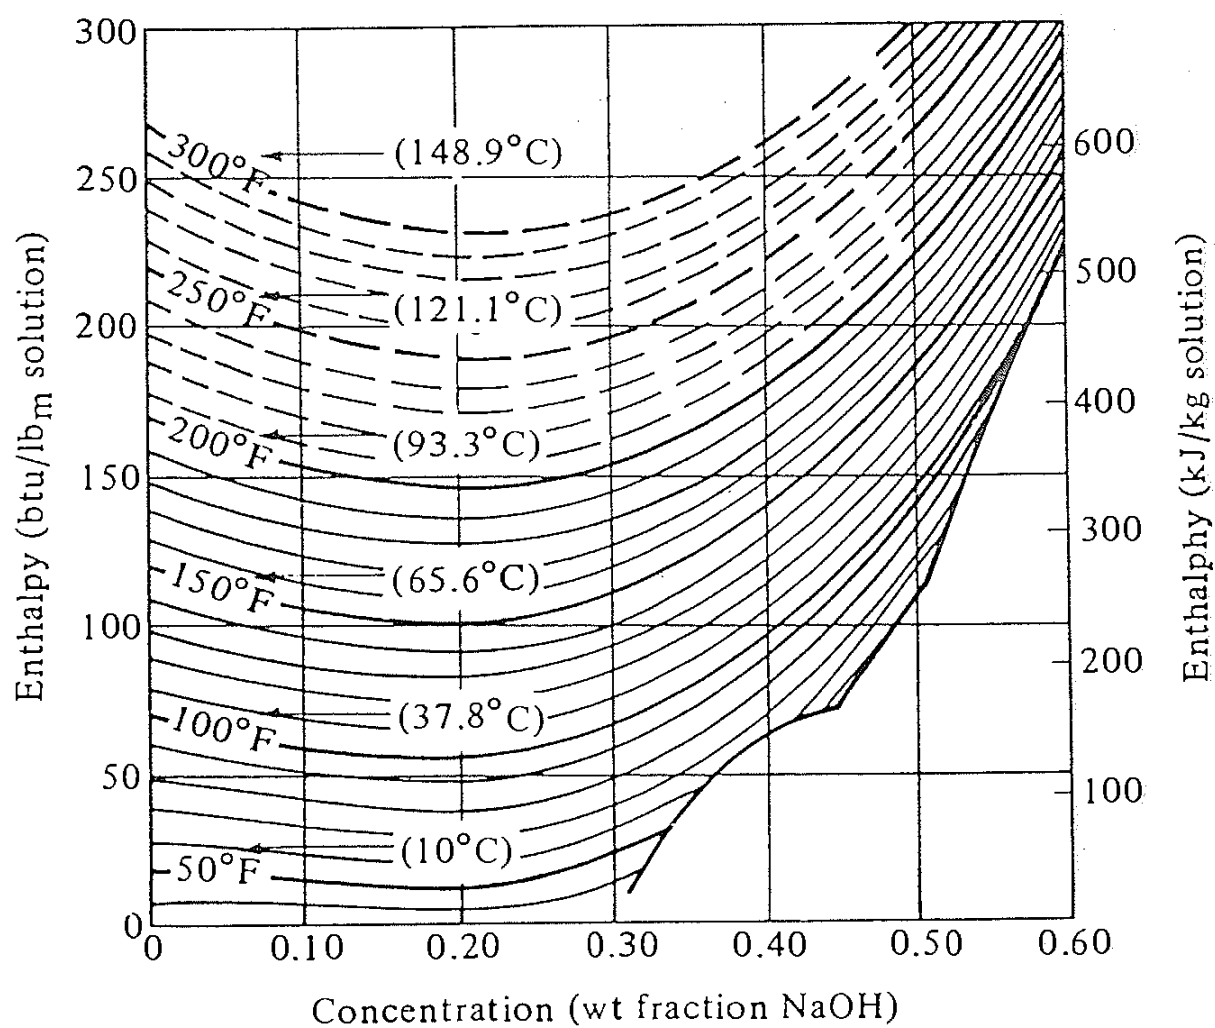

Figure 2: Enthalpy chart for NaOH-water solutions. The zero-enthalpy reference is liquid water at 0°C. This figure is needed for Q. 3.
- Determine the duty of the evaporator. You may neglect the sensible-heat change of the feed stream but you must clearly state any other approximations you make. An enthalpy-concentration diagram for aqueous NaOH mixtures is available in Fig. 2. [8 marks]